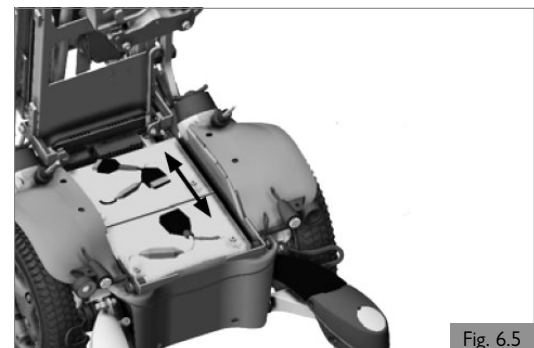

Fig. 6.5
5. Disconnect the 2 pin Anderson connectors from each battery (Fig.6.5).